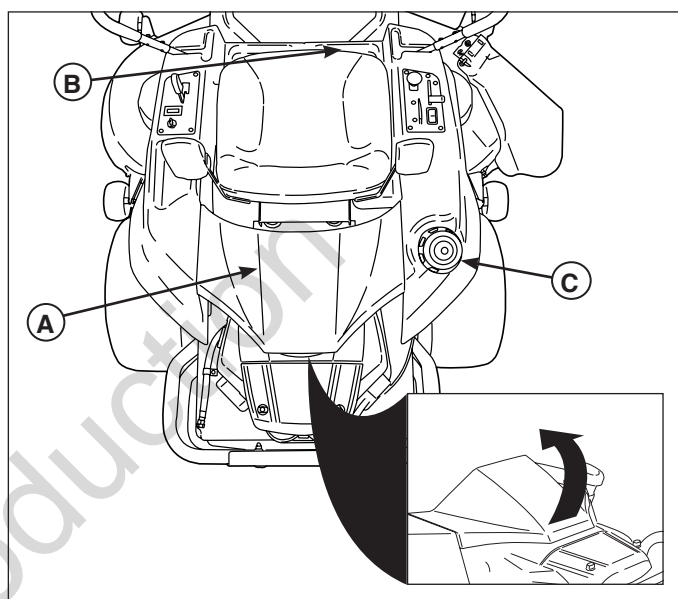

Figure 1. Pre-Start Checks
- Check that the crankcase is filled to full mark on dipstick (**A**, Figure 1 - located under the engine cover on some models). See the engine owner's manual for instructions and oil recommendations.